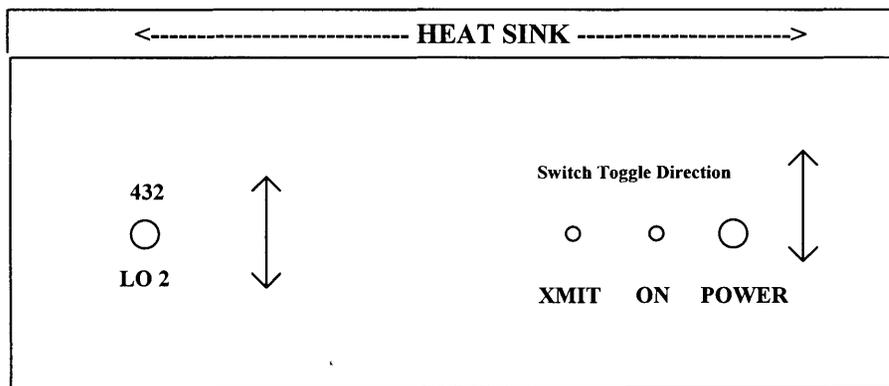

Figure 5 Switch / LED Mounting Positions
- 1 -Mount the POWER switch using the supplied hardware. Mounting of the switch should be so it is toggled per Figure 5.
- 2 -Mount the LO2-432 switch using the supplied hardware. Mounting of the switch should be so it is toggled per Figure 5.
- Place the "XMIT" LED in the wall mounting hole (see Figure 5) and place the previously formed lead on the ground plane circuit close to the edge of board and solder.